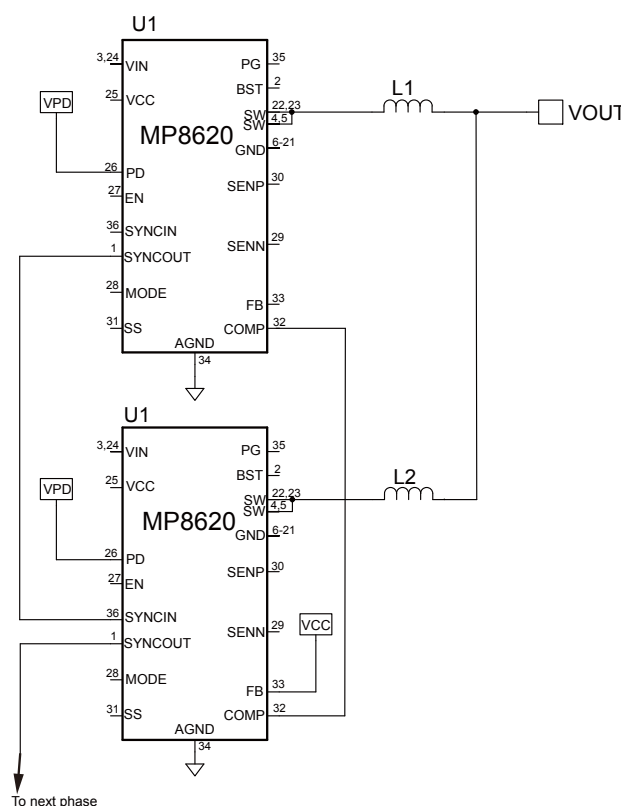

Figure 6
- Connect the COMP pin of slave IC to the COMP pin of the master IC as shown in Figure 6.